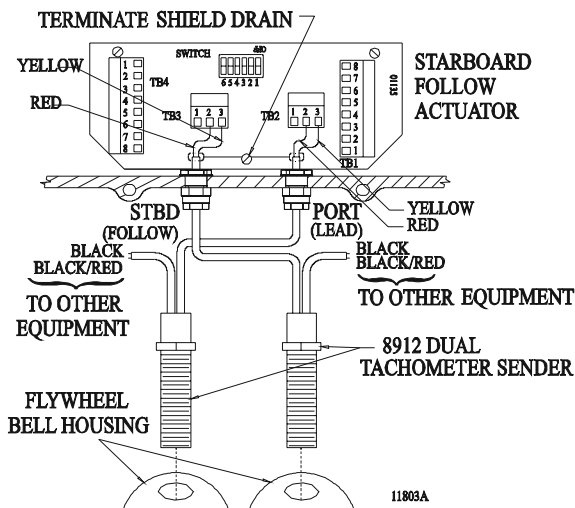
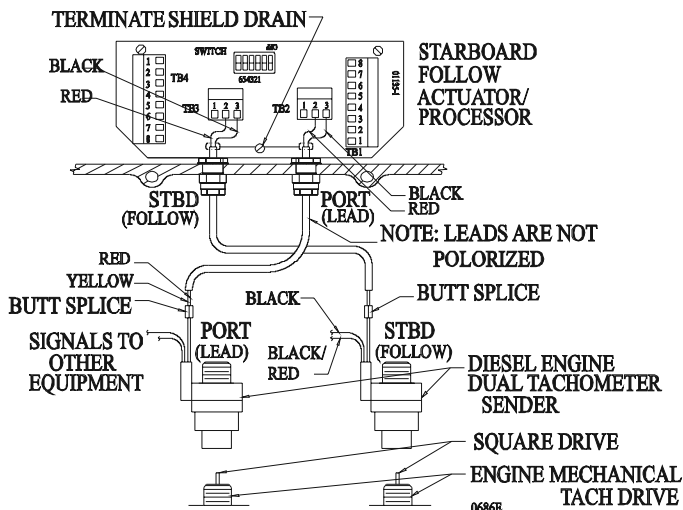
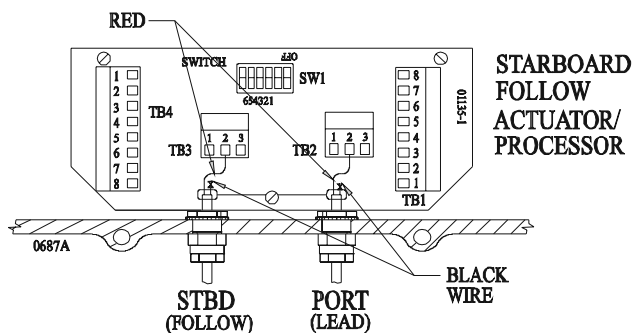

Figure 1: 01135 Magnetic Flywheel Pickup Engine Signal Input
Figure 2: 01135-1 Tach Sender Engine Signal Input
Figure 3: 01135-1 Alternator, Ignition Coil, or Electronic Ignition Control Module Engine Signal Input
1135 Auxiliary Board (Refer to Figure 1:)
1135-1 Auxiliary Board (Refer to Figure 2: and Figure 3:)
- J) Connect the Black conductors to TB2-3 & TB3-3 and the Red conductors to TB2-2 & TB3-2 as shown in Figure 2: and Figure 3: or the Red conductors only, as shown in Figure 1:.
- K) Terminate the Drain (Shield) wire under the Auxiliary Board's mounting screw as shown in Figure 1:, Figure 2:., or Figure 3:.
1135 with Flywheel Magnetic Pickups (Refer to Figure 1:.)
1135-1 with Mechanical Senders (Refer to Figure 2:.)
1135-1 with Electronic Ignition, Ignition Coils, or Alternator AC Terminal (Refer to Figure 3:.)
- A) Check the wiring connections; refer to Figure 1:, Figure 2:, Figure 3:, and the drawing "**Twin Screw with Synchronization**" on page 13.